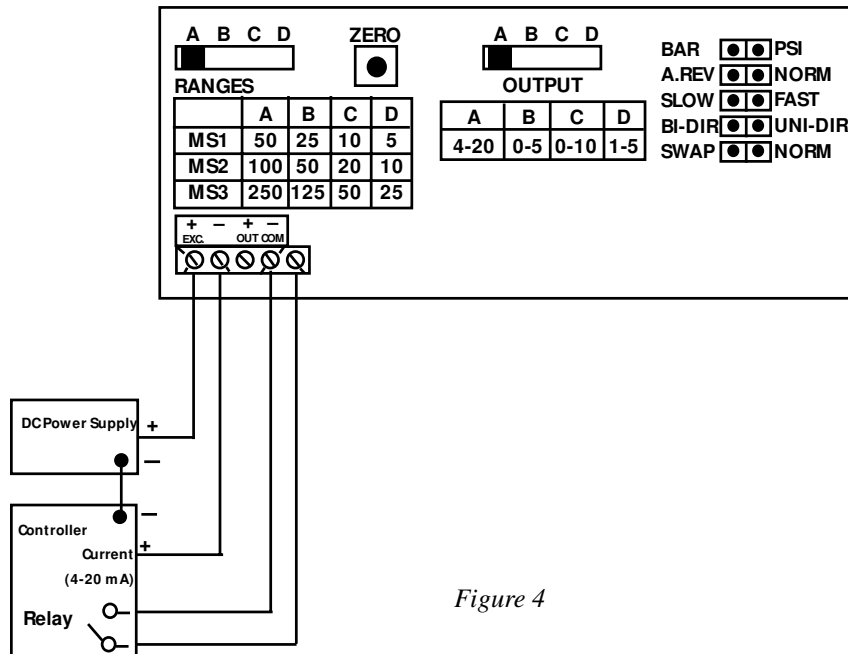

Figure 4
**Auto Zero Button:** Press and hold the "ZERO" push-button for 2 seconds to automatically reset zero or provide contact closure on "Remote Zero, see figure 4, pg.8, and figure 5, pg.9 .